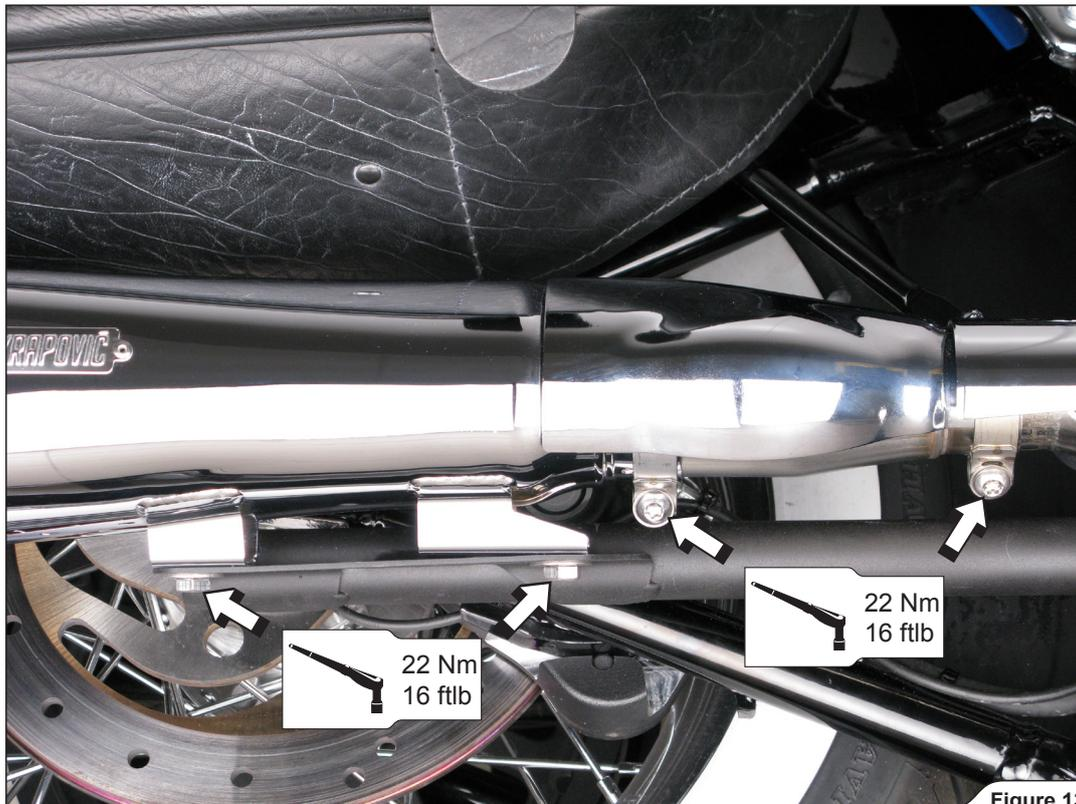

Figure 13
- Align the mufflers and mufflers' heat shields with header tubes' heat shields, adjust all the clamps as shown and tighten the clamps and mufflers' screws to a specified torque (Figure 13, 14, 15).
! **CAUTION:** align and tighten the top muffler first (Figure 13)!